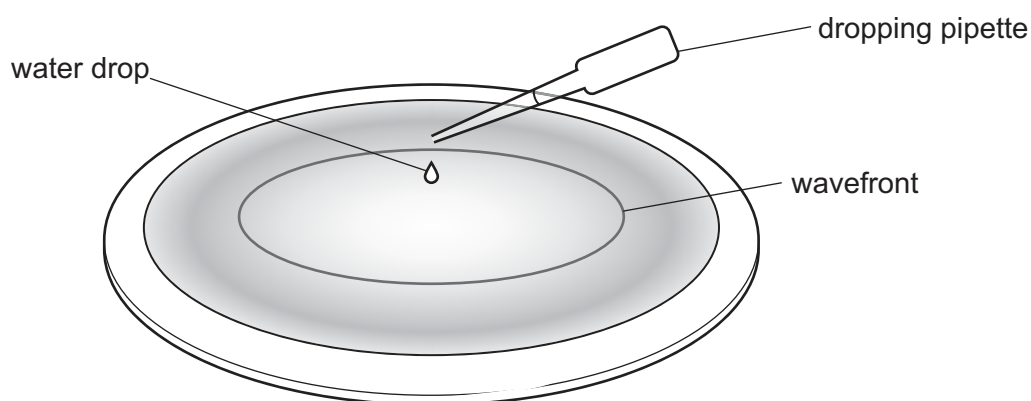

Fig. 1.2
- (b) Fig. 1.2 shows a wavefront moving outwards from the centre of the plate. The wavefront is produced by **one drop** of water from the dropping pipette.